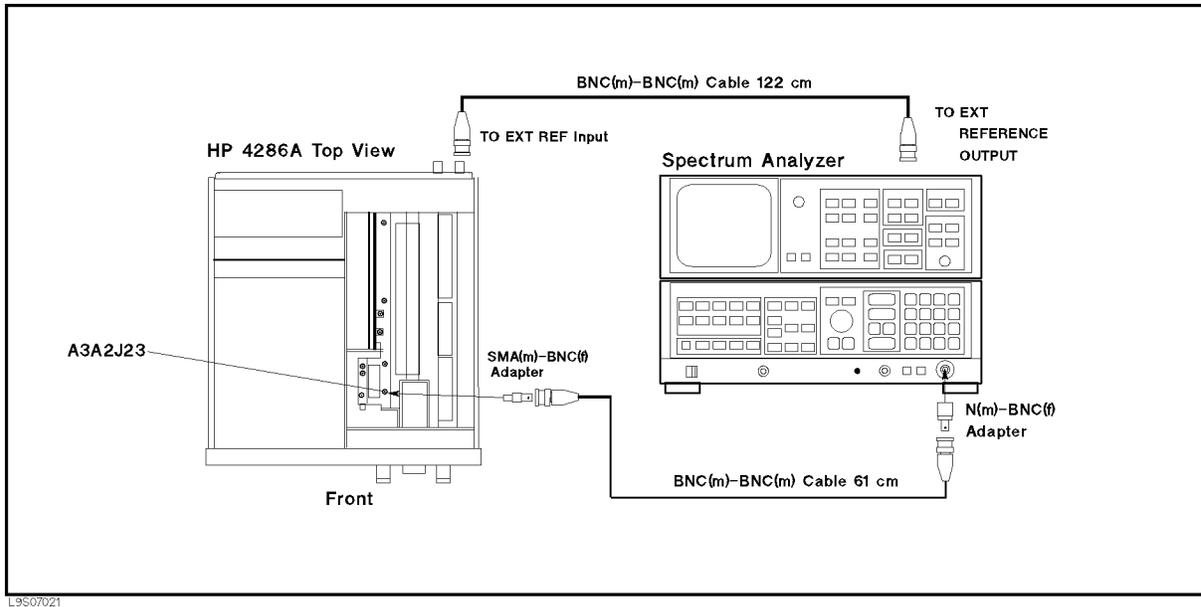

Figure 7-17. 2.05858 GHz Signal Test Setup
- a. Remove the “E” cable from A3A2J23. See Figure 7-17 for the location of A3A2J23. Then connect the equipment as shown in Figure 7-17.